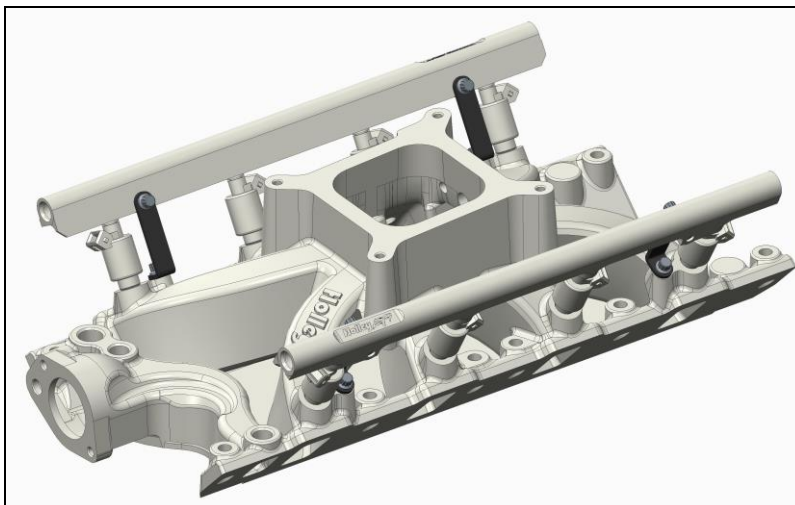

Figure 3
8. Apply thread locking compound to the (x4) 5/16-24 x .75 screws and use them to attach the correct fuel rail bracket to the manifold. Apply thread locking compound to the (x4) 5/16-24 x .88 screws and use them to attach the fuel rail bracket to the fuel rails (**Figure 3**). Torque each screw to 9 foot-lbs, then torque each screw again to 14 foot-lbs.